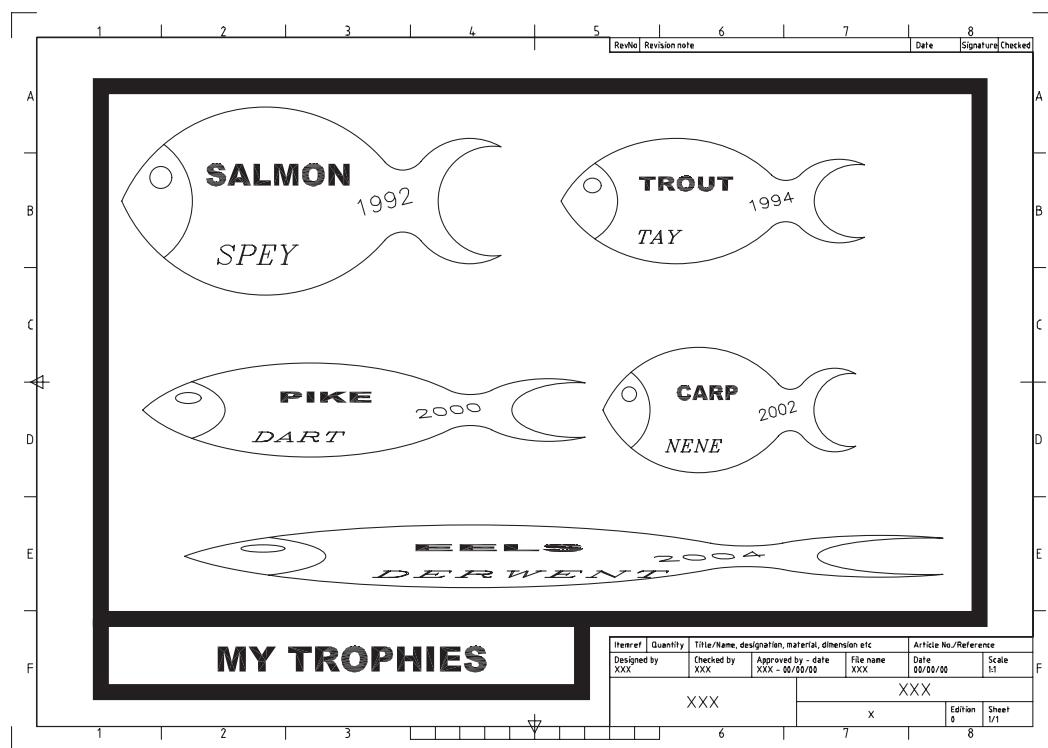

Figure 28.11 The trophy cabinet.
- 9 a) Using step 7 as a guide with the attribute data of species, river and year, refer to Figure 28.11 and insert the TROPHY block to complete the cabinet display